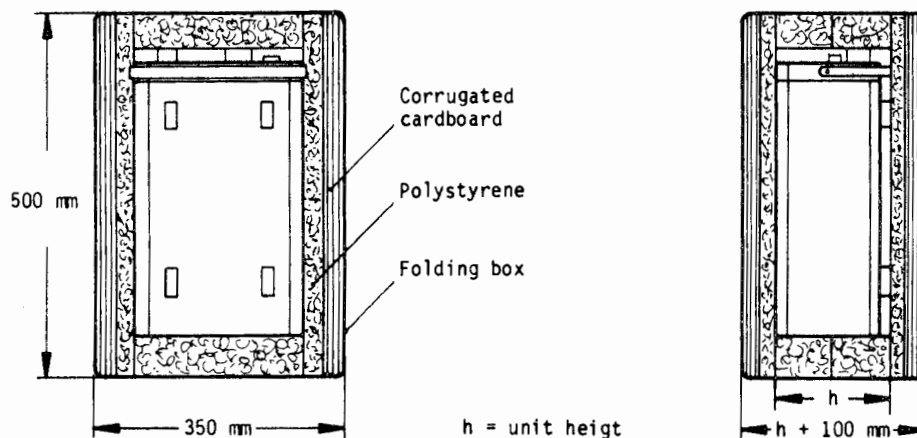

Fig. 5-1 Packing Instructions
- Place packing material around all sides of the instrument and protect panel face with cardboard strips or plastic foam. See Fig. 5-1.